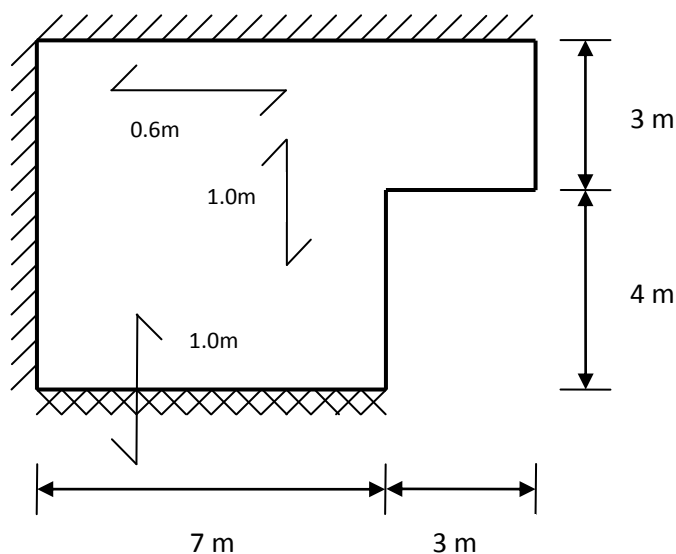

Figure 6 / *Rajah 6*
4. A complex shape reinforced concrete slab is supporting an ultimate load of 12 kN/m^2 as shown in **Figure 6**. The yield line method is known as the most suitable method in analyzing the ultimate moment resistance. In this method, a slab which is subjected to increasing load, will undergo cracking followed by yielding of reinforcement in the high stressed zone. Then, plastic hinge will develop and the subsequent loads will be spread out to the other regions of the slab. Propose the yield line pattern and estimate the ultimate moment resistance that would cause the reinforced concrete slab to collapse.